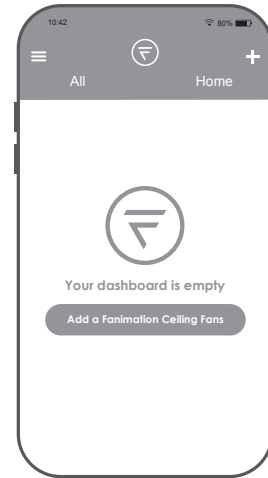

Figure 4
- ☐ 4. Connect the 2 single pin connectors from the LED assembly to the 2 single pin connectors from the motor assembly. (Figure 4)
☐ **6. Learning Process:** (Figure 4)
- ☐ 4. After you have created Fanimation fanSync account, you can add your fans in the APP. (Figure 4)